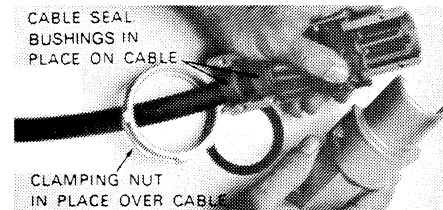

FIGURE 3. ASSEMBLING PLUG
5. Slightly stretch cable seal bushings and put them over cable jacket flush with stripped end. Proper bushings are largest provided that fits snugly over cable. Discard others. (See Figure 3.)
7. Place clamping nut over cable with threaded end toward insulator assembly. (See Figure 3.)
8. Place insulator assembly into half of plug in which grounding strap has been put. If lower half (gasketed), wide notch must be to the left, if upper half, wide notch goes to the right, viewing from cable end. This is only way insulator can be oriented so halves will fit together. (See Figures 3 and 4.)
9. Adjust one bushing until it sits on land ahead of cable clamp and remaining bushing on land behind cable clamp. (See illustrations.) Mate other plug half to the assembly making sure locating pins on one half meet locating holes on other half. (See Figures 3 and 4.)